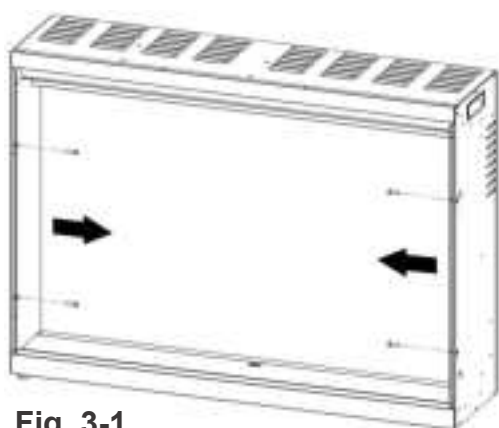

Fig. 3-1
- A. With the front trim and glass removed, remove the four screws holding the interior walls. (Fig. 3-1)